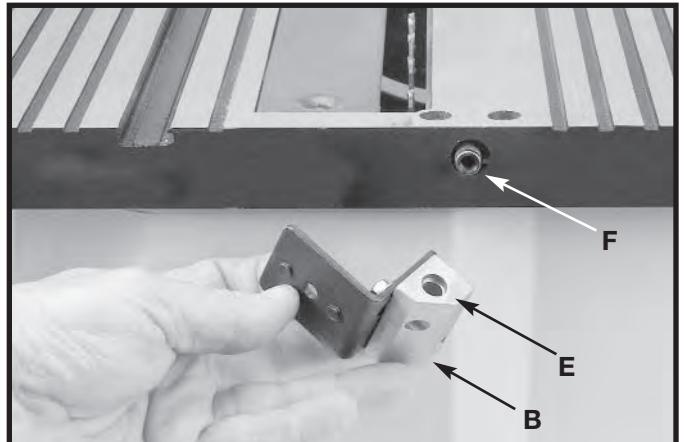

Fig. 11
- Position the recessed end (E) Fig. 11 of the splitter bracket (B) against the end of the pivot rod (F), and fasten using the assembly in **STEP 3**.